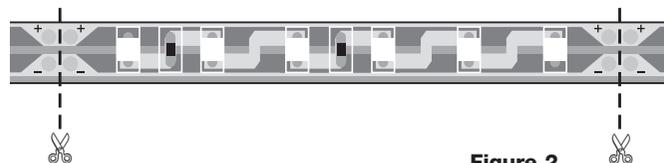

Figure 2
1. Shorten LED board if necessary (Fig. 2).
LED boards can be disconnected in each case after **six** LEDs (Fig. 2).
1. Cut through the LED board at the marked position (Fig. 2).